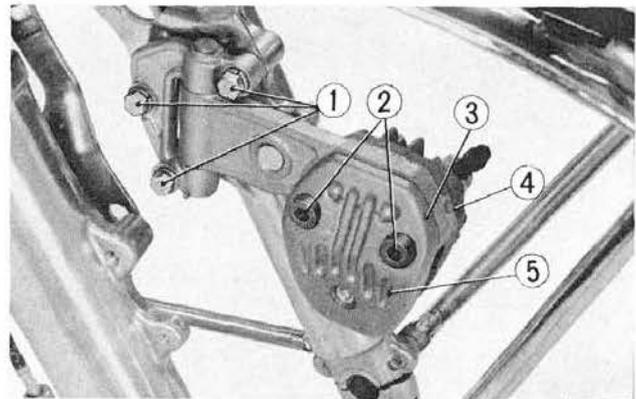

**Fig. 14-3** ① Joint ③ Oil hose
② Oil bolt
2. Disconnect the front brake hose at the joint by removing the oil bolt. (Fig. 14-3)